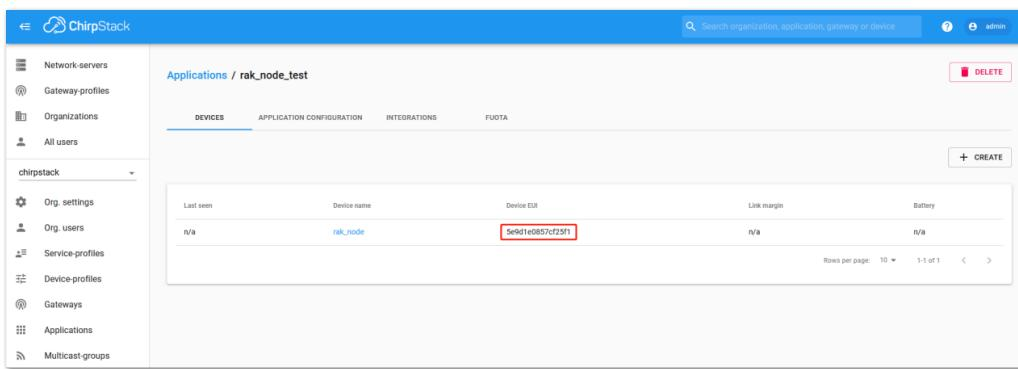

Figure 207: Chirpstack OTAA list of the device in the device tab
- As shown in **Figure 207**, a new device should be listed in the **DEVICES** tab. The most important parameters, such as the Device EUI, are shown in the summary.